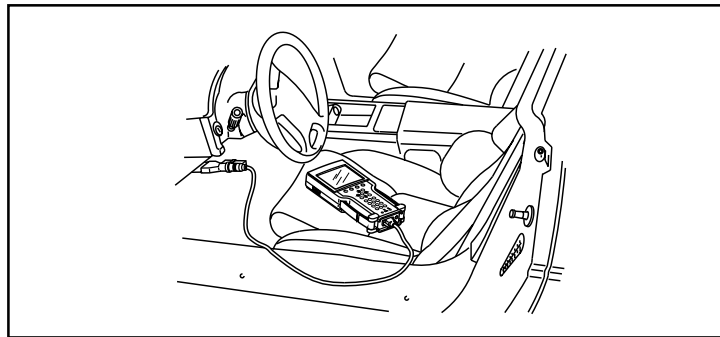

Figure I-3, Tech 2 to Vehicle Connection
- 1.1 With the Tech 2 and vehicle both off, connect the Tech 2 to the vehicle DLC (Figure I-3).
- 3.1 With the Tech 2 and vehicle both off, connect the Tech 2 to the vehicle DLC (refer to Figure I-3).